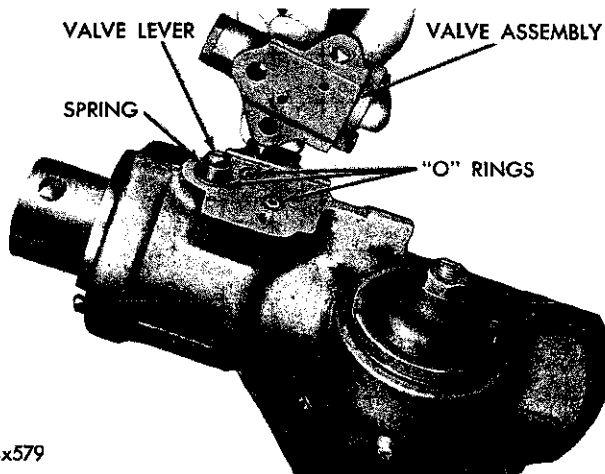

Fig. 11—Removing the Valve Body Assembly
(3) Remove the valve body housing attaching screws and remove the valve body and the three "O" rings (Fig. 11).
(4) Remove the spring and valve lever. Pry under the spherical head with a screwdriver.